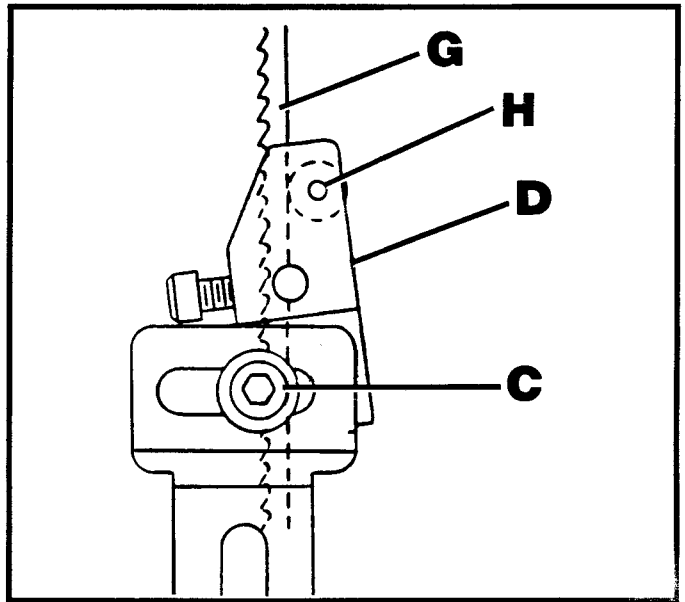

Fig. 15
5. Loosen screw (C) Fig. 15, and tilt the blade guide bracket (D) forward as shown until blade support bearing (H) is approximately 1/32" behind rear edge of saw blade (G). Tighten screw (C) Fig. 15.